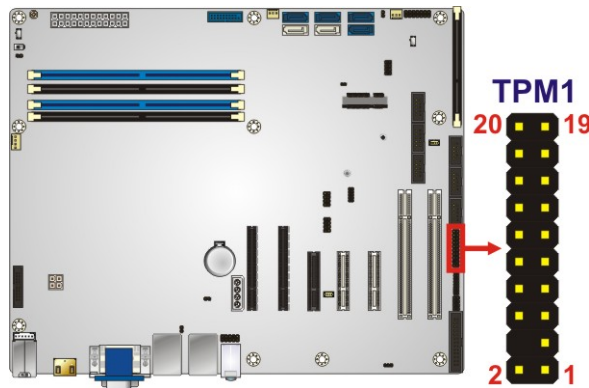

Figure 3-31: TPM Connector Location
- CN Location:** See **Figure 3-31**